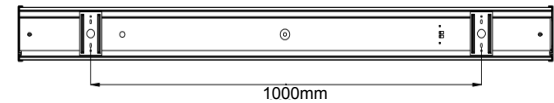

Fig. 3 SLS-4
STEP 1 Use appropriate mounting hardware (not supplied) to secure the Snap On B rackets to mounting surface. Refer to recommended Snap On Bracket in Fig. 2 for SLS-2FT and in Fig3. for SLS-4FT.